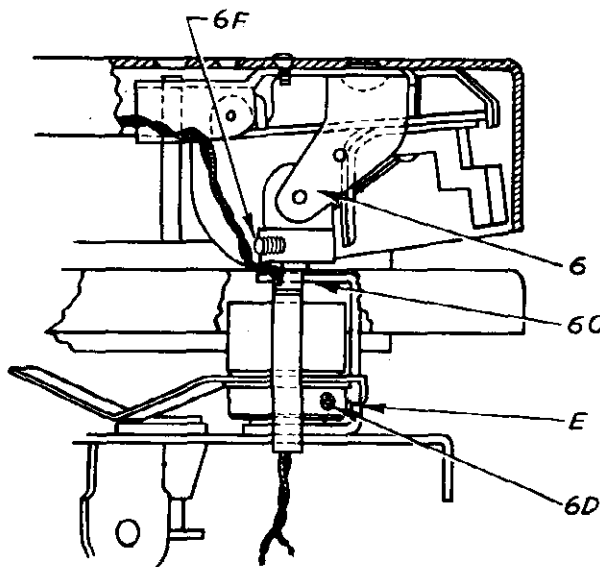

Fig. 11
2. Trip the mechanism and turn the turntable by hand until the pickup arm raising lever (10) is at the extreme limit of its outward movement (the fingers of the spindle will be fully closed into the spindle at this point). Force the mounting post (6C) Fig. 11 to turn until the extended set screw (6D) is firmly against the bracket at point "E". The ear of the velocity trip arm will of course be carried with the set screw.